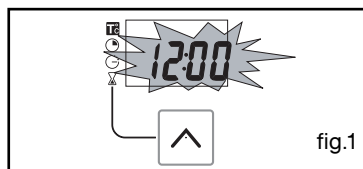

fig.1
The display flashes at 12:00 (fig.1)
*The function selector switch must be in the 0 position (fig.1).*